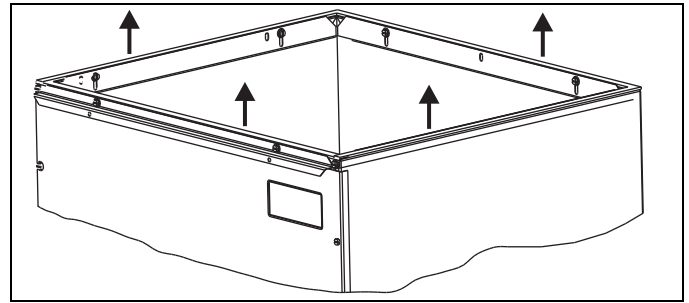

FIGURE 6: Coil Flange Placement
2. Slide up the sides and back flange and tight the 6 screws that hold them. Refer to Figure 6.
3. Unscrew the front flange and move it to the top to align it to the rest of the flanges allowing to screw it back to the brace using the 2 holes in the bottom of the front flange. Refer to Figure 6.